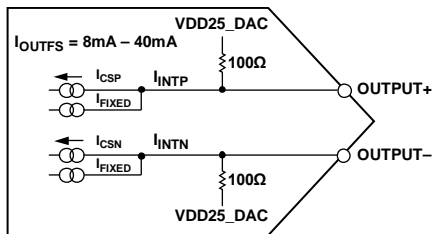

Figure 137. Equivalent DAC Output Circuit
The AD9164 provides complementary current outputs, OUTPUT+ and OUTPUT-, that sink current from an external load that is referenced to the 2.5 V VDD25\_DAC supply. Figure 137 shows an equivalent output circuit for the DAC. Compared to most current output DACs of this type, the outputs of the AD9164 consists of a constant current (IFIXED), and a peak differential ac current, ICS (ICS = ICSP + ICSN). These two currents combine to form the IINTX currents shown in Figure 137. The internal currents, IINTP and IINTN, are sent to the output pin and to an input termination resistance equivalent to 100 Ω pulled to the VDD25\_DAC supply (RINT). This termination serves to divide the output current based on the external termination resistors that are pulled to VDD25\_DAC.
The example shown in Figure 137 can be modeled as a pair of dc current sources that source a current of IOUT to each output. This differential ac current source is used to model the signal (that is, a digital code) dependent nature of the DAC output. The polarity and signal dependency of this ac current source are related to the digital code (F) by the following equation: